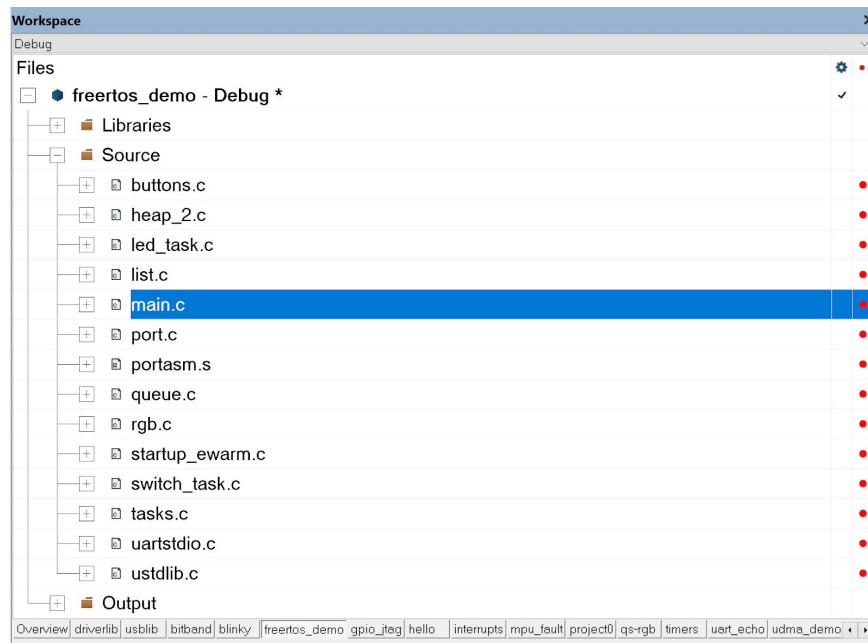

Figure 8: The freertos_demo project with the added starter code (main.c)
6. Replace the freertos_demo.c with the main.c we provided, which can be found under Canvas -> Files -> Labs -> Lab4 -> RTOS. We will only be using files #include by the starter code for this assignment; all other files you see in this directory is out of the scope of this assignment. Your project tab should now look similar to Figure 8.